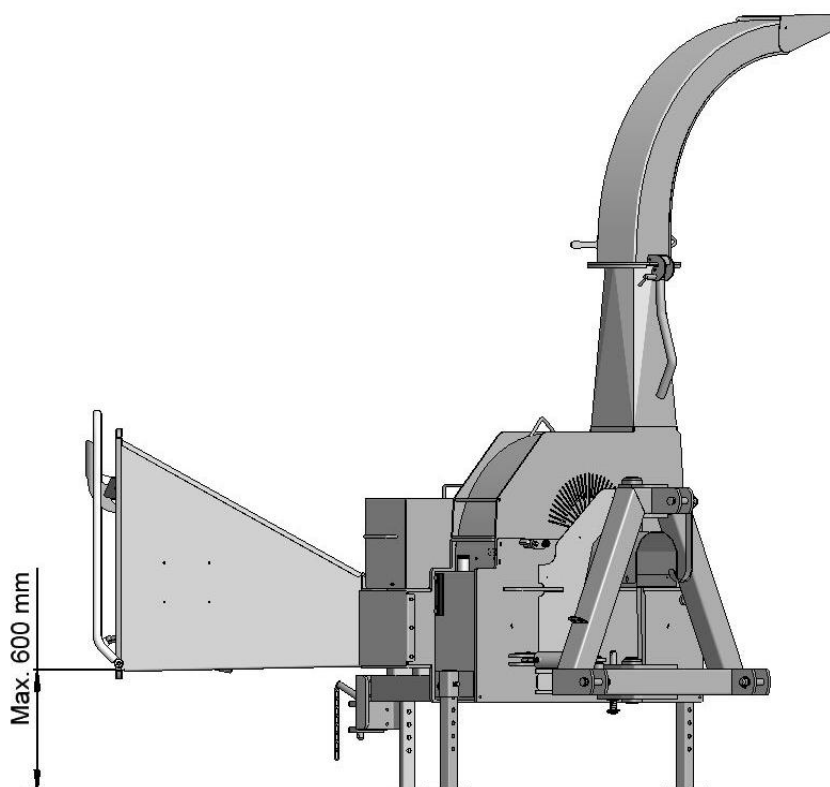

Figure 6 Maximum height over the terrain
- During operation the machine's height may not supersede 600 mm over the terrain (see Figure 6). If this height is not maintained the operation/safety handle will not work as it should, and that may lead to risks of severe personal injury due to retraction.